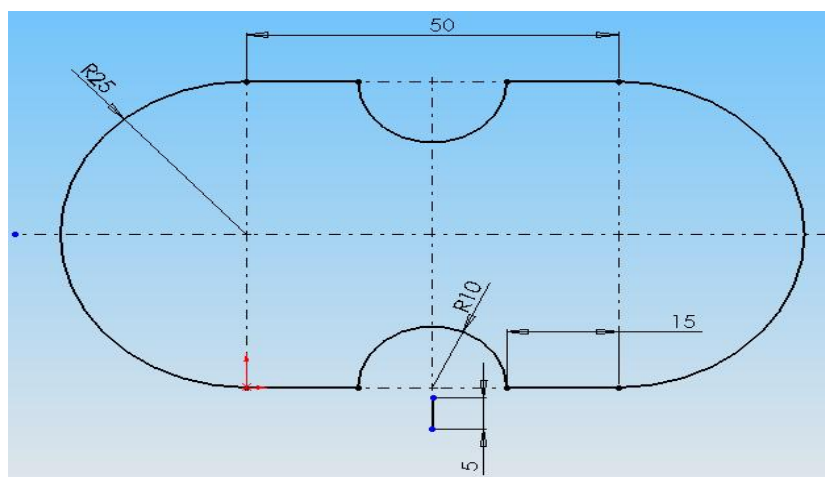

Figure 2
- (b) EDM wire cutting is a continuously moving wire travels along a prescribed path of the work-piece by discharge sparks acting like cutting teeth. According to drawing given in figure 2, construct the coordinate system in order to perform the cutting process in EDM wire cut by assumed 0.25 of wire diameter and 50 micron spark gap.